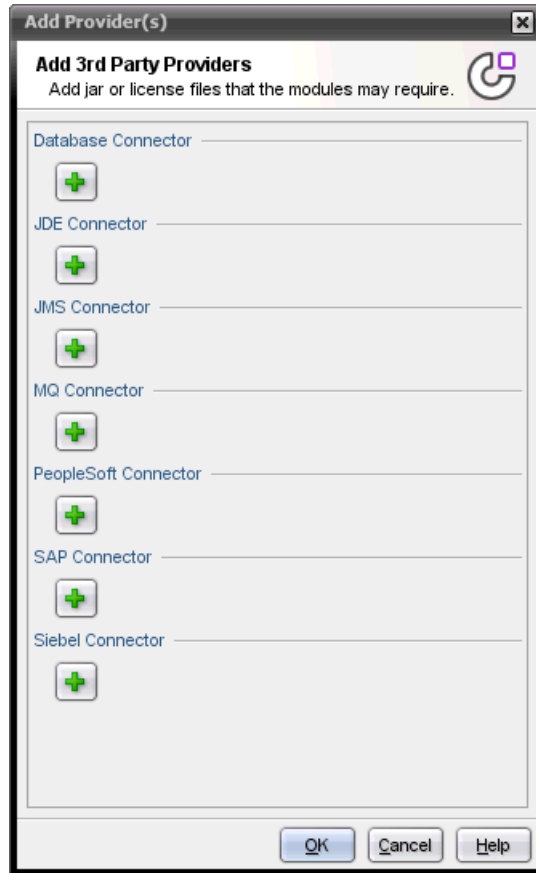

Figure 3-42 The install module providers window
1. Click **Tools** → **Install Module Providers**. The window shown in Figure 3-42 opens.